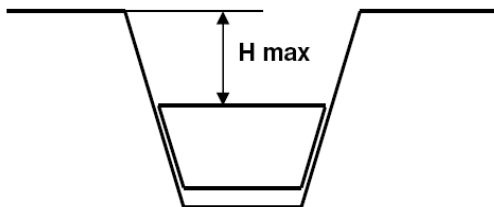

Figure 201: Smallest working diameter
- Check the proper installation of the PVC fins and droplet eliminator. The arrow must point in direction of airflow (**Figure 201**).